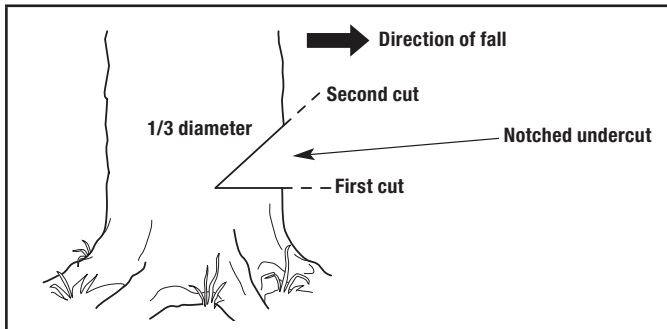

Figure 11
1. Make a horizontal cut into the trunk of the tree (Fig. 11). The cut should be about 1/3 the diameter of the tree and close to the ground. To prevent the guide bar from being pinched by the weight of the wood, always make this cut first.
2. Make a 45° cut into the trunk of the tree, above the first cut (Fig. 11). Continue cutting until the two cuts meet.